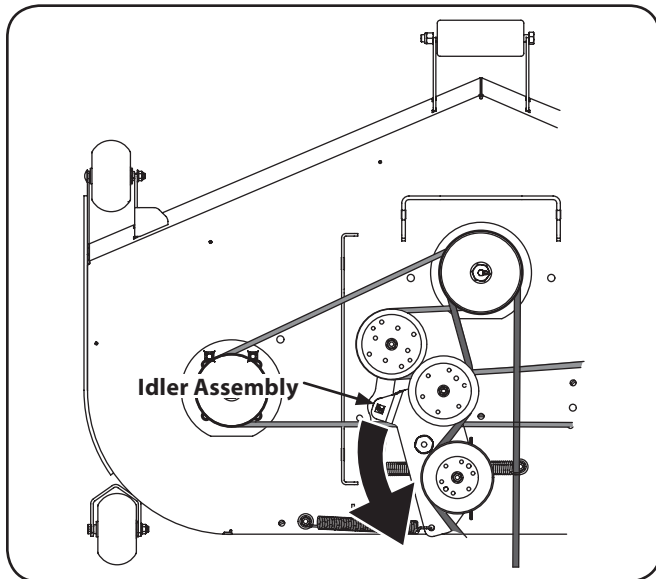

Figure 7-4
- Using a $\frac{1}{2}$ " drive in the idler assembly turn the wrench towards the back of the tractor and slide the belt off the PTO pulley. See Fig. 7-4.